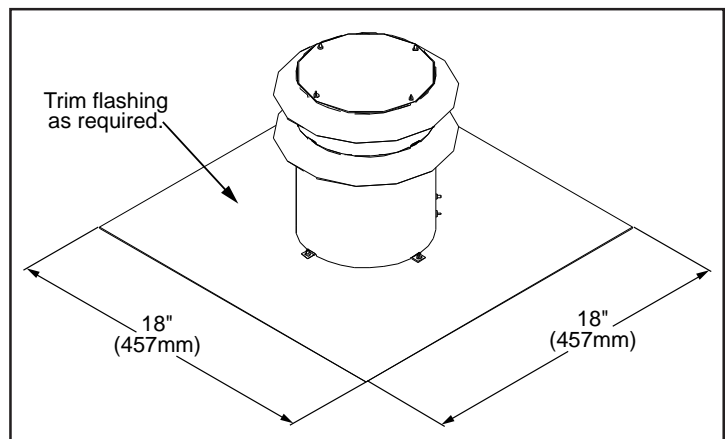

Figure 18: Generic Vent Cap Dimensions.
4. Most vent caps can be installed onto chimneys with flue openings up to 16" (406mm) x 16" (406mm) and the actual flashing is 18"x18" (refer to Figure 18). If the chimney is smaller the cap should be trimmed down and folded over.
5. Apply a bead of stove cement sealant to the top section of the Ø3" (76mm) exhaust vent collar plate. Slide the Ø3" (76mm) flex vent over the flue collar and secure with three (3) sheet metal screws evenly spaced.
6. Place a bead of high temperature silicone on the intake collar of the fireplace, slide the Ø3" (76mm) flex intake liner over the collar, secure the flex liner with three (3) sheet metal screws evenly spaced.
7. At the top of the chimney, apply a bead of stove cement sealant to the Ø3" (76mm) pipe of the exhaust vent terminal (refer to Figure 18). Slide the flex liner onto the vent terminal and secure with three (3) sheet metal screws evenly spaced.
8. Place a bead of high temperature silicone on the intake collar of the vent terminal (refer to Figure 18). Slide the Ø3" (76mm) flex intake liner over the collar, secure the flex liner with three (3) sheet metal screws evenly spaced.